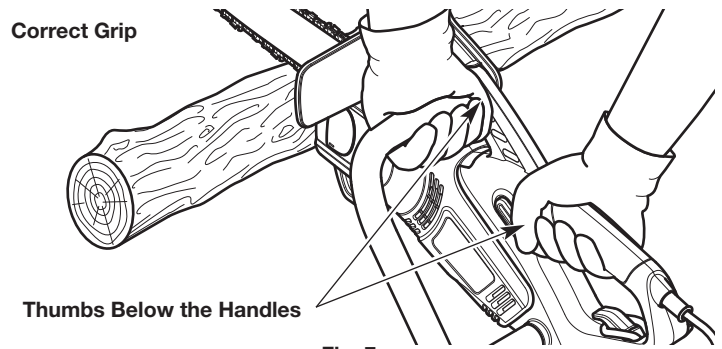
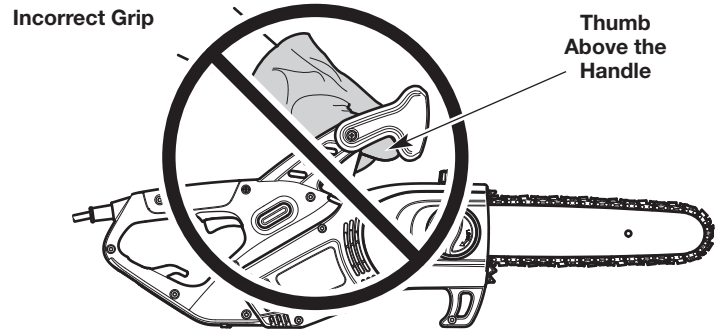

Fig. 7
Fig. 8
- Firmly encircle the handles and/or pole with the thumbs and fingers (Fig. 7). This will help reduce the chance of losing control of the unit if kickback occurs. Any grip with thumbs and fingers on the same side of the handles and/or pole is dangerous (Fig. 8).